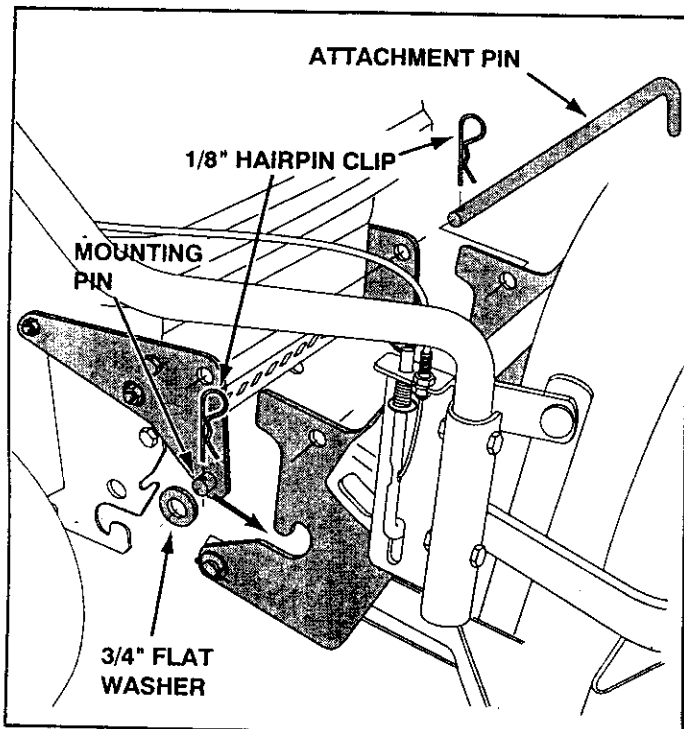

FIGURE 15
- Secure the snow thrower to the tractor using the attachment pin and 1/8" hairpin clip. Insert the attachment pin from the left side. See figure 15.